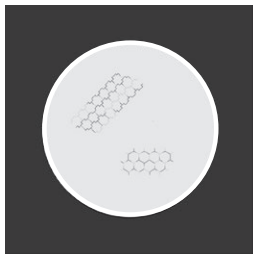

FIGURE 3.4. FIXED-PATTERN NOISE
(3) Black Spots. These are cosmetic blemishes in the image intensifier or dirt or debris between the lenses. Black spots are acceptable as long as they do not interfere with viewing the image. **No action is required if this condition is present unless the spots interfere with the operator's ability to view the image or to perform the mission.**
(4) Fixed-Pattern Noise. This is usually a cosmetic blemish characterized by a faint hexagonal (honeycomb) pattern throughout the viewing area that most often occurs at high light levels or when viewing very bright lights (see Figure 3-4). This pattern can be seen in every image intensifier if the light level is high enough. **This condition is acceptable as long as the pattern does not interfere with the operator's ability to view the image or to perform the mission.**